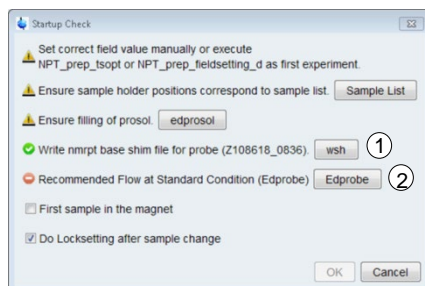

Figure 3-14: Startup Check dialog
- In the Startup Check dialog (Figure 3-14) click **wsh** (1). A base shim file is written.
- If a red error symbol  appears next to **Recommended Flow at Standard Condition (Edprobe)** in Startup Check dialog (Figure 3-14): Click **Edprobe** (Figure 3-14 (2)) to set Recommended Flow in *TopSpin* edprobe dialog.
- In Startup Check dialog (Figure 3-14) click **OK** to start the measurements.